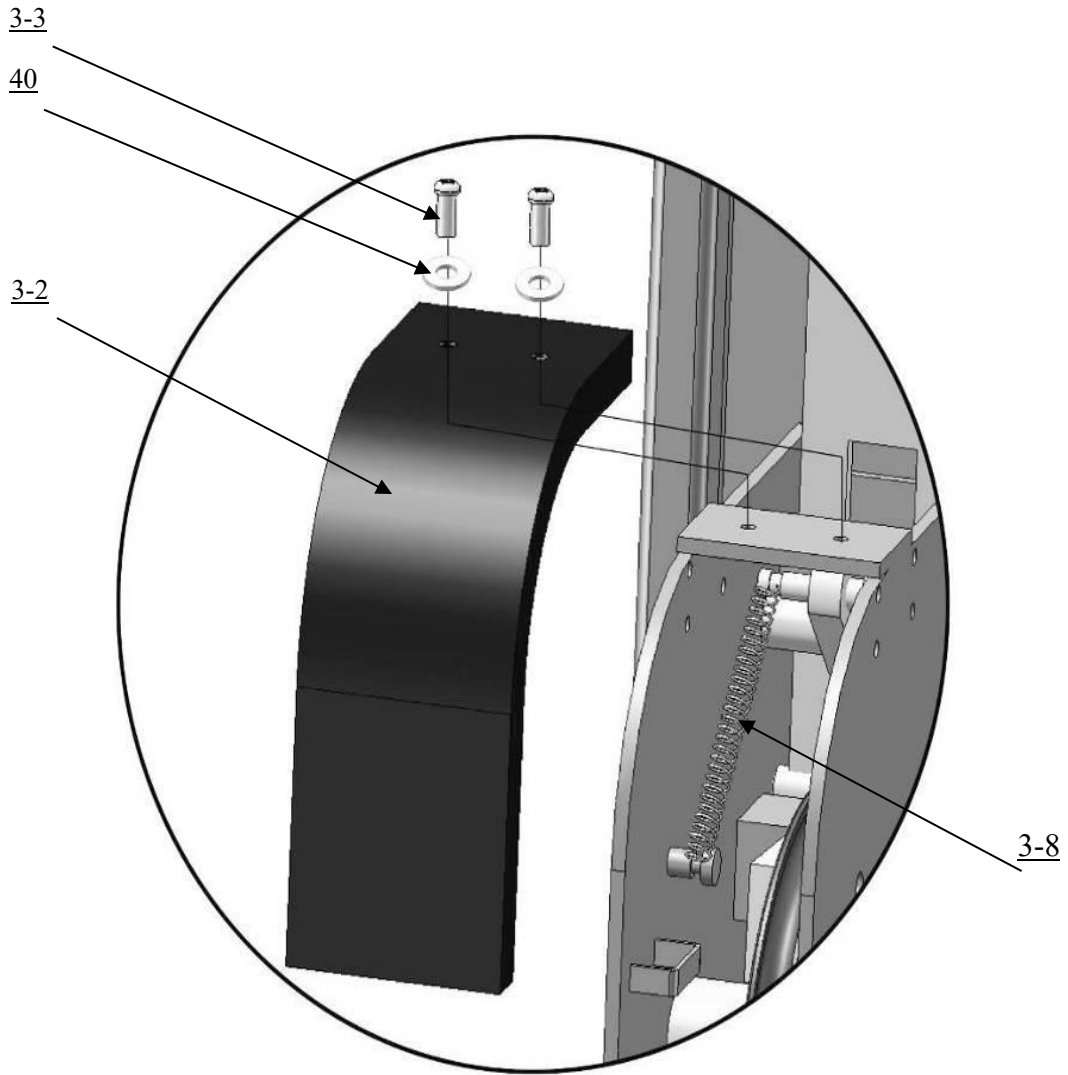

Fig. 32
P. Install spring and safety cover of cross beam (See Fig. 32).